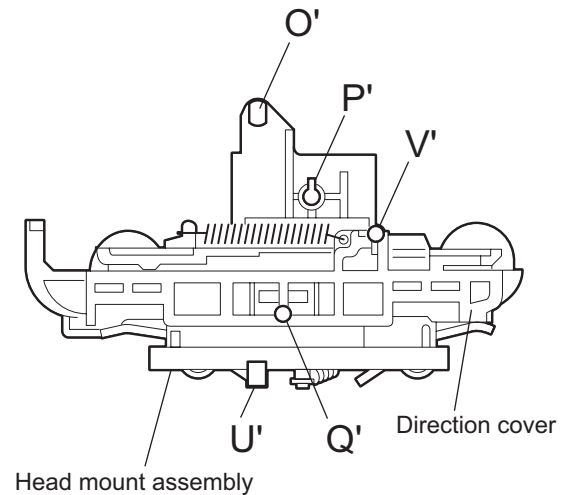

Fig.11
2.5.6 Reattaching the Play/ Record & Clear head (See Fig.11~13)
(1) Reattaching the head mount assembly.
- b) Fit the bosses **O'**, **P'**, **Q'**, **U'** and **V'** on the head mount assembly to the holes **P** and **V**, the slots **O**, **U** and **Q** of the mecha sub assembly (See Fig.11 to 13).